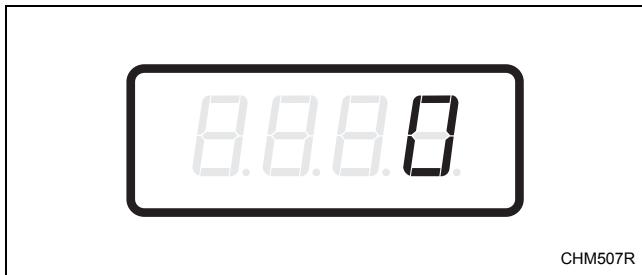

Figure 25
2. When “CnP2” appears in the display, press the START (enter) keypad. There are five digits in the Cycle Modifier Heavy Price. The fifth digit will appear in the display and will flash for one second on, one second off. Refer to *Figure 25*.